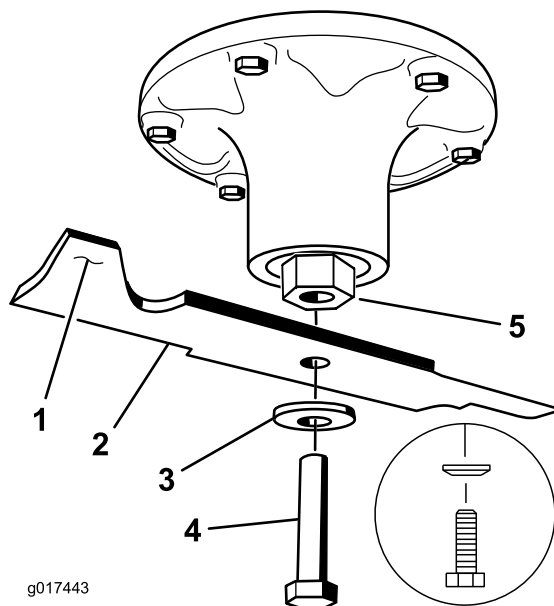

Figure 115
2. Remove the left and center blade bolt, curved washer, and blade from the spindle shaft (Figure 115).
1. Install the left and center blades, curved washers, and blade bolts to the spindle shafts (Figure 115 and Figure 116).
Note: Ensure the curved-washer cone is installed toward the bolt head (Figure 115).
2. Install the right blade, curved washer, and blade bolt (left-hand threaded bolt) to the spindle shaft (Figure 115 and Figure 116).